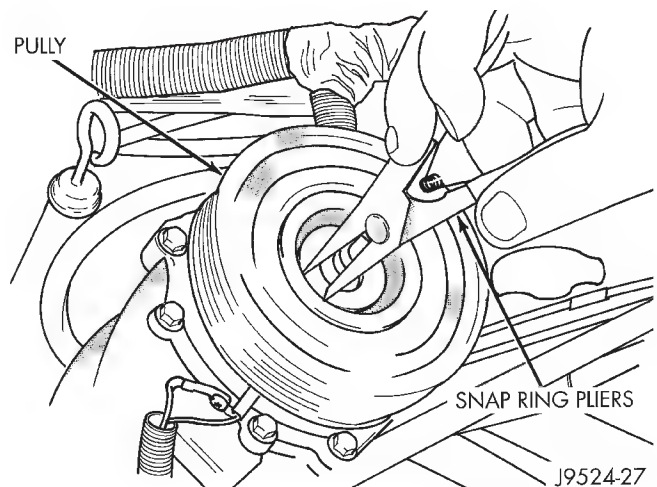

Fig. 6 External Snap Ring Removal
- (5) Remove key and clutch shims.
- (6) Remove the external front housing snap ring with snap ring pliers (Fig. 6).